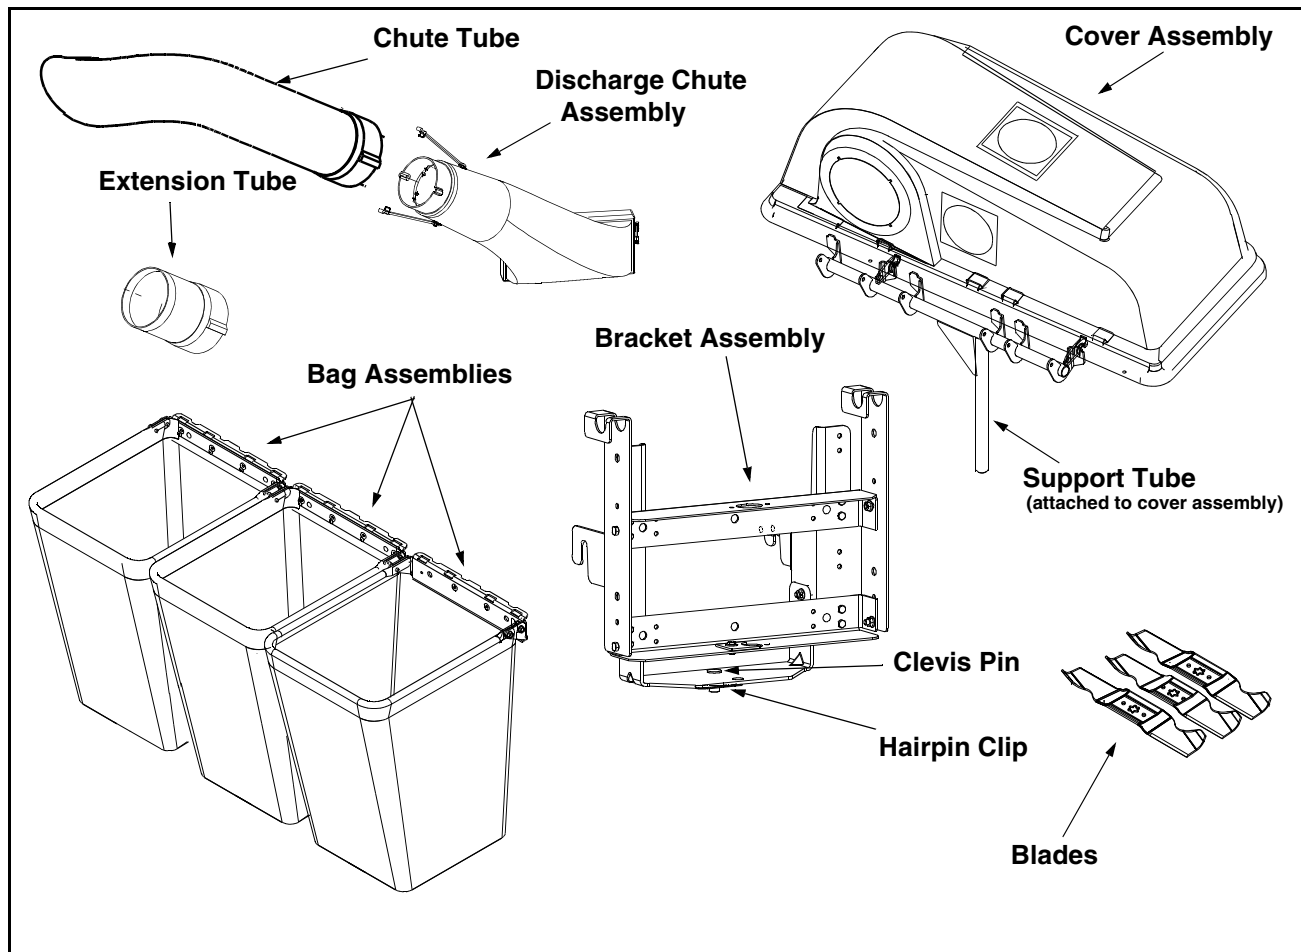
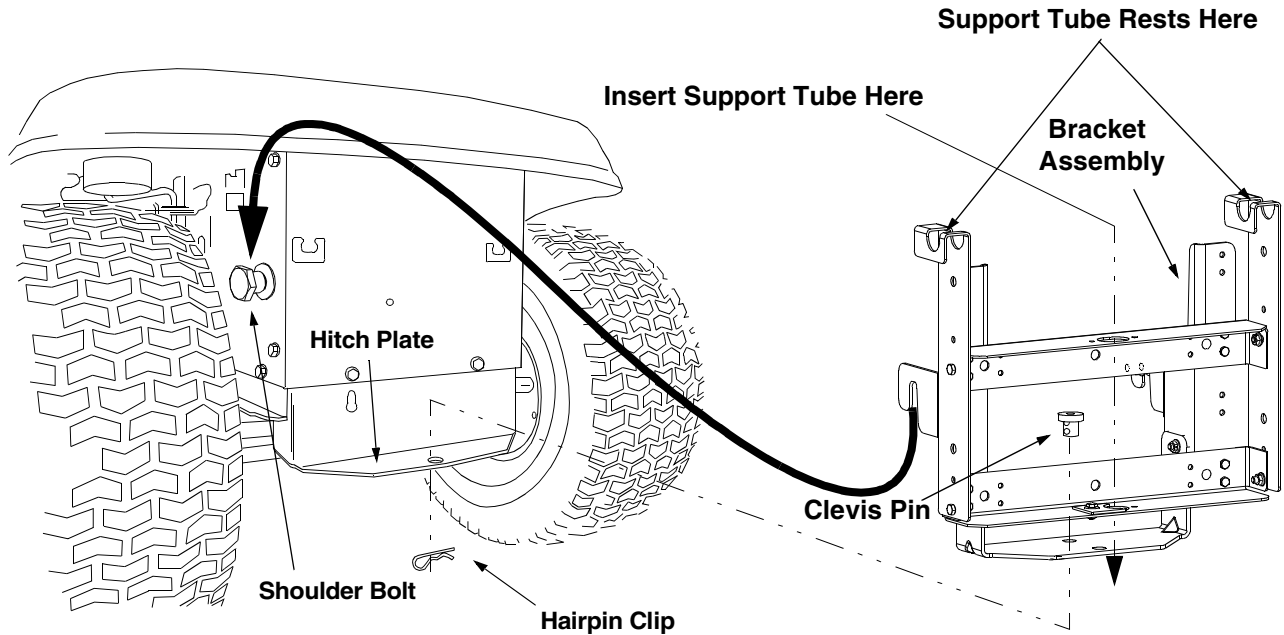

Figure 4
Figure 5
Before beginning installation, remove all parts from the carton to make sure everything is present. Carton contents are listed below and shown in Figure 4. Hardware part number are shown in parentheses.
2. Remove the hairpin clip and clevis pin from the hole in the rear of the bracket assembly. Refer to Figure 4
3. Position the hooked ends of the bracket assembly to the outside of the hitch plate and over the shoulder bolts. Refer to Figure 5.
4. Reinsert the clevis pin through the aligned holes in both the bracket assembly and the hitch plate. Affix with the hairpin clip. Refer to Figure 5.
2. Place the cover assembly in position so that the support tube rests on both sides of the bracket assembly. Refer to Figure 5. Allow the plastic cover to rest in the "open" position on the back of the tractor's seat for ease of assembly.
1. Place the cover assembly's support tube (refer to Figure 4) in position on the rear of unit by sliding the support tube down through the holes in the center of the bracket assembly. Refer to Figure 5.